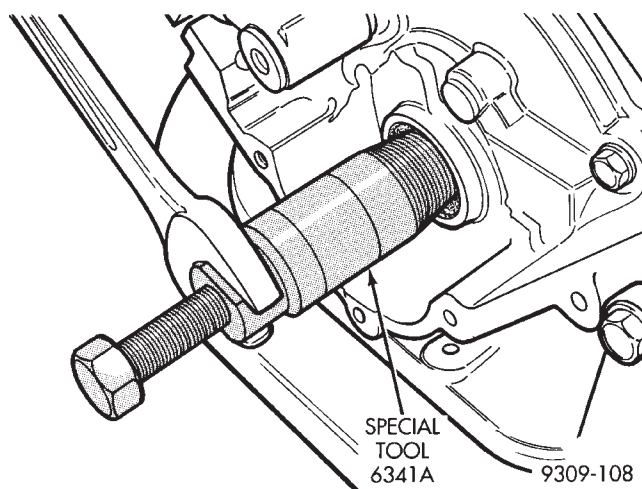

Fig. 9 Removing Crankshaft Oil Seal with Special Tool 6341A
(4) Remove crankshaft seal using Special Tool 6341 (Fig. 9).